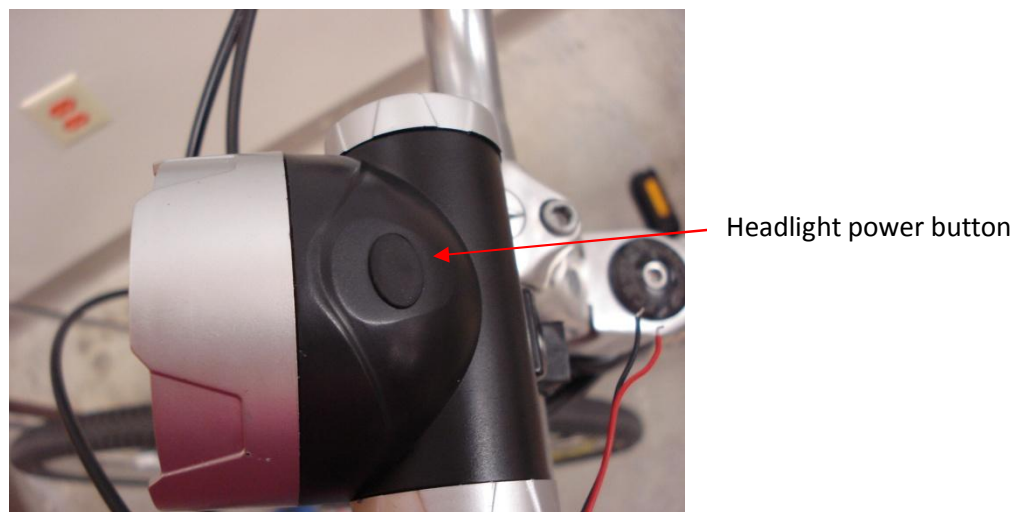

Figure 5: Turning on the headlight
- The PEEVS bicycle features an LED headlight that may be powered by the battery. To use this feature, you may flip the discharge switch to the 'on' position and press the power button on top of the headlight (shown in figure 5) to turn it on.